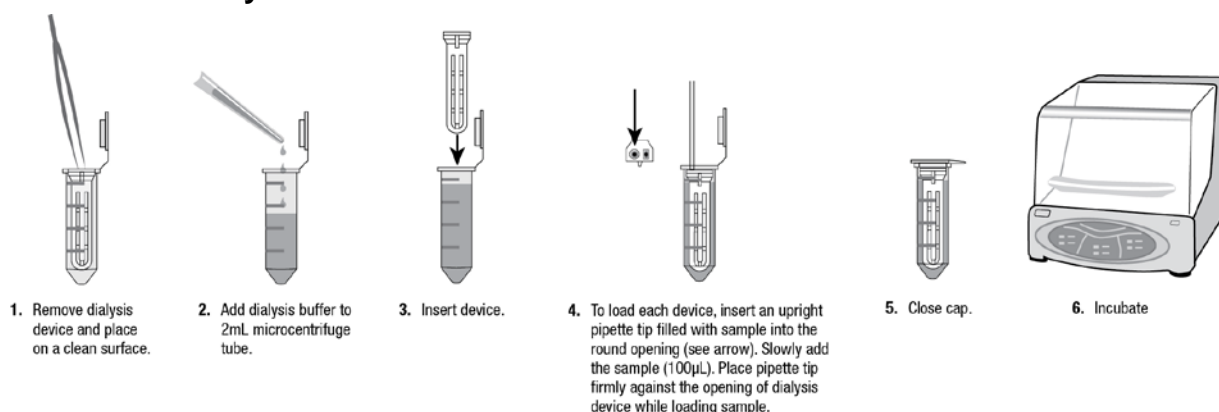

Figure 1. The Thermo Scientific 1-Step CHO High-Yield IVT Trial Kit protocol.
- 10 unique restriction sites are provided in the multiple cloning site for cloning genes of interest (Figure 1)
Figure 1. The Thermo Scientific pT7CFE1-NHis-GST-CHA Vector multiple cloning site, with the exception of Msc I, is common to all of the expression vectors used in the Thermo Scientific 1-Step High-Yield CHO IVT Kits. The translational start site is the ATG found upstream of the His tag region.